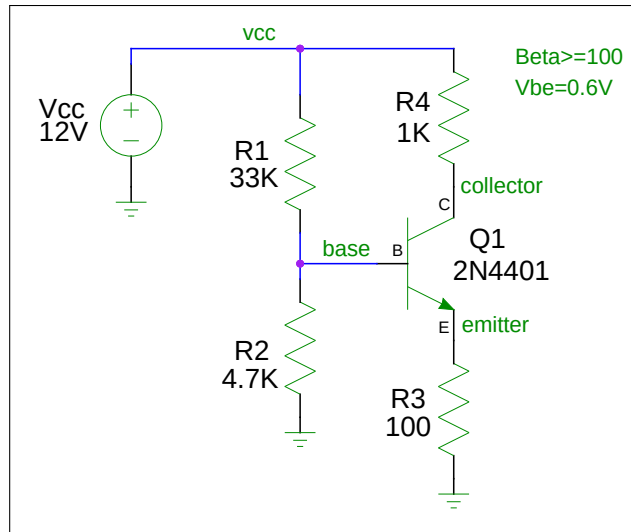

Figure 1: Schematic Diagram for Lab 2
3. Download the spice model file: 2n4401.mod to a working area for lab2. Then create the spice file to simulate the circuit of Fig 1 and record it in your lab notebook. Refer to earlier ngspice files as how to proceed. Run the simulation and comment on how your hand-calculated values differ from ngspice.
4. Build Figure 1's BJT amplifier "dead-bug" style using the techniques shown in class and lab. Measure the voltages and currents in the circuit and record in your lab notebook.